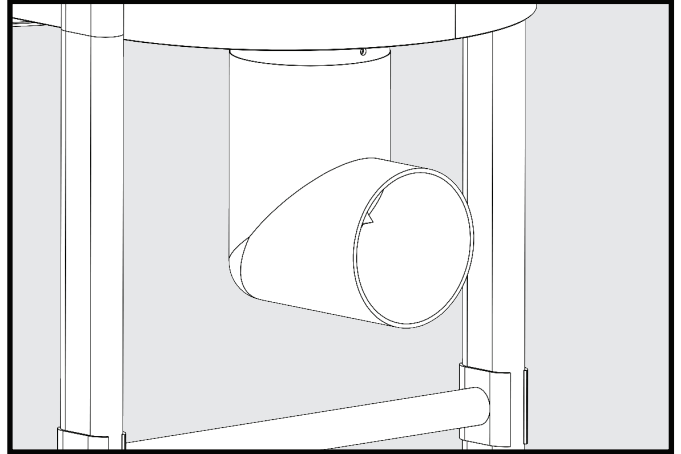

FIGURE 13
1. Place the inlet adapter on the dust intake port as shown in Fig. 13 opposite to the motor. Make sure that the inlet adapter fits on the intake flange and holes line up between the inlet adapter and housing.
2. Insert screws (25).